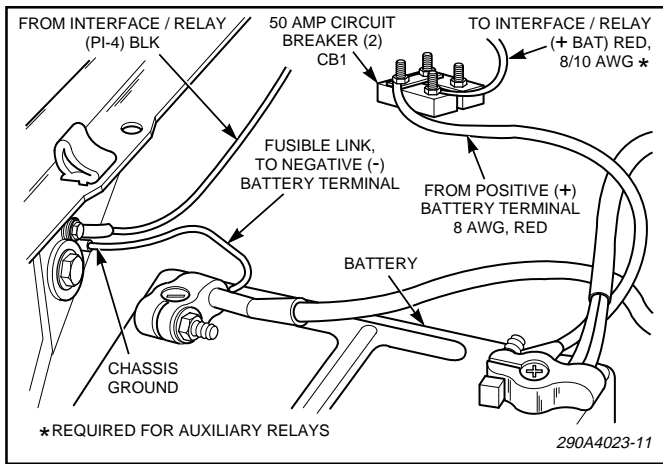

Figure 3-9. Battery Connections.
4. See figure 3-9. To protect the wire, 2 circuit breakers (CB1) rated at 50-amperes (Federal Part No. 8474A176 or equivalent) should be connected as close as practical to the positive (+) battery terminal. When the total load current is greater than 50-amperes, use a 100-ampere circuit breaker. When the total load current is less than 50-amperes, use a 50-ampere circuit breaker.
**When making the following connections, never exceed the current rating of the circuit breakers (CB1) near the battery (see figure 3-9). Failure to do this will result in a shutdown of the vehicle warning system.**